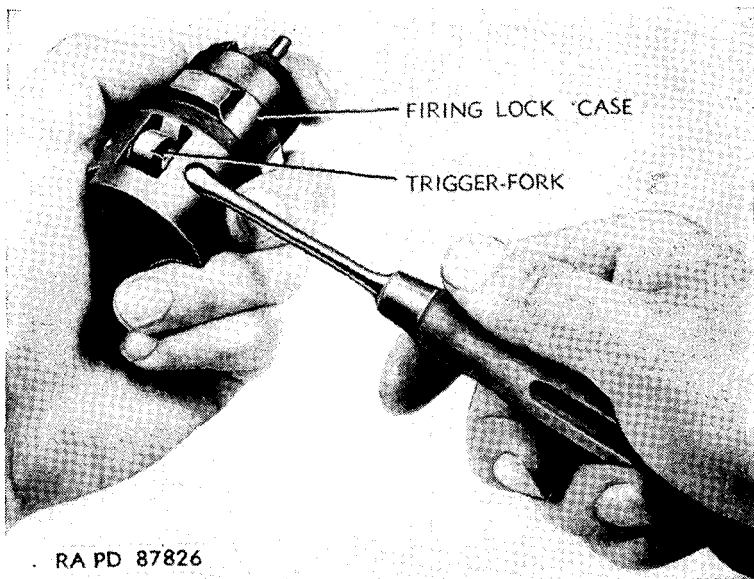

Figure 188. Removing trigger fork.
- (2) Pry the trigger fork partially out of the firing case with a screwdriver inserted through the trigger shaft hole (fig. 188). Pull the trigger fork out with the fingers.